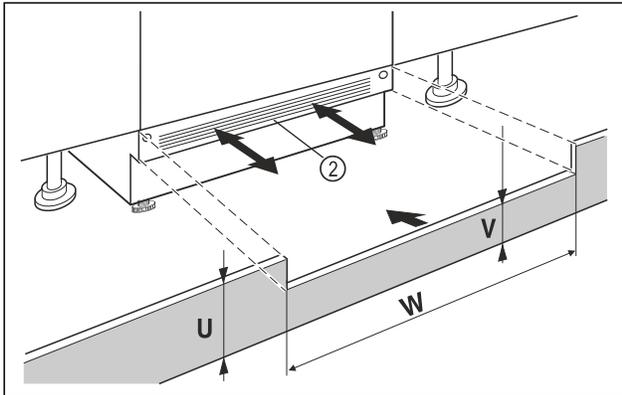

Fig. 37 Example illustration
- ▶ Put on the appliance base cover Fig. 37 (2) but do not fix it yet.
- ▶ If the base cover Fig. 37 (2) is visible, pull it so far forward that the front edge of the ventilation grille and the unit base cover form one level.
- ▶ If the base cover is concealed Fig. 37 (2), push it all the way back.
- ▶ Ensure that the ventilation slots are completely free: If necessary, cut the height of the unit base cover Fig. 37 (U) to size!
- ▶ Adjust the bar height Fig. 37 (V) under the appliance base cover Fig. 37 (2) along the recess width Fig. 37 (W).